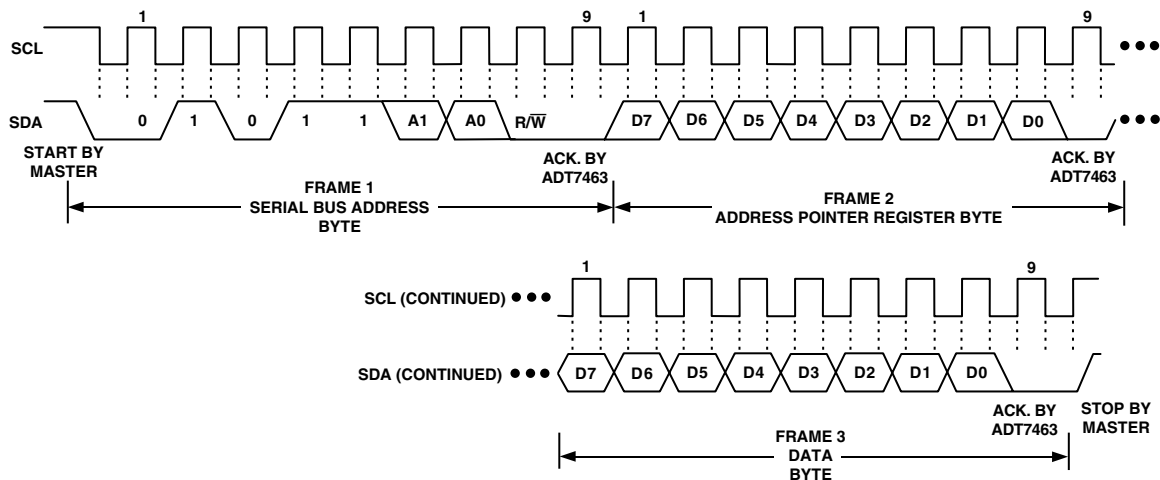

Figure 7. Writing a Register Address to the Address Pointer Register, Then Writing Data to the Selected Register
This is illustrated in Figure 7. The device address is sent over the bus followed by R/W being set to 0. This is followed by two data bytes. The first data byte is the address of the internal data register to be written to, which is stored in the address pointer register. The second data byte is the data to be written to the internal data register.
2. In Figures 7 to 9, the serial bus address is shown as the default value 01011(A1)(A0), where A1 and A0 are set by the address select mode function previously defined.